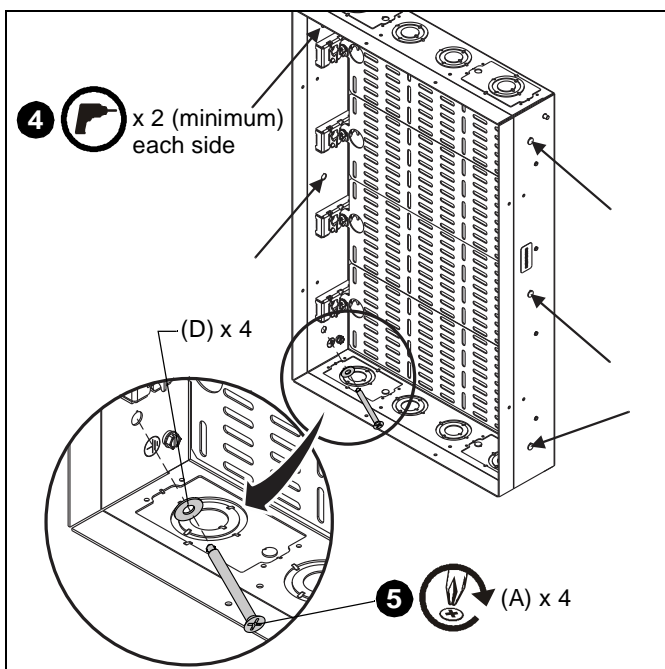

Figure 8
- Install PAC527 to studs using four 1/4 x 2-1/2" Phillips flat head screws (A) and four 3/8" flat washers (D) through PAC527 and pilot holes. (See Figure 8)